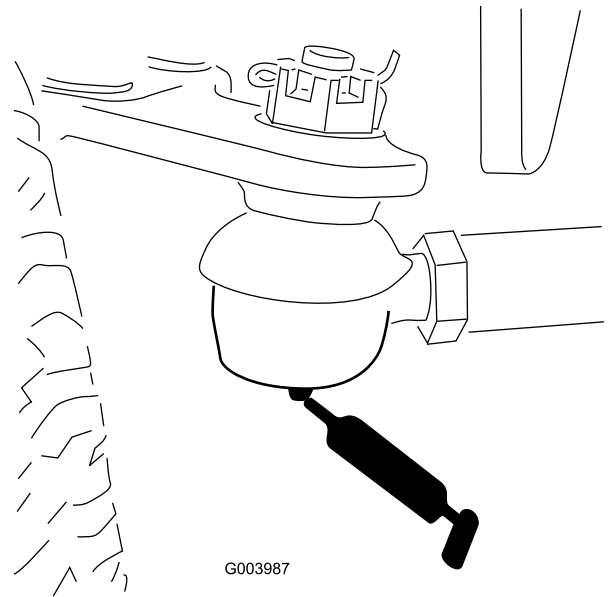

Figure 47
- Rear axle tie rod (2) (Figure 47)